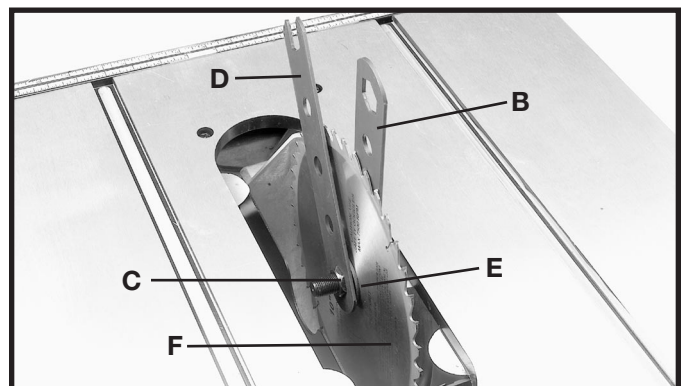

Fig. 46
4. Using the open end wrench (B) Fig. 46, place open end of wrench on flats on inside blade flange to keep the saw arbor from rotating and remove arbor nut (C) with the closed end of wrench (D). Turn nut (C) counterclockwise to remove. Remove outside blade flange (E) and saw blade (F).
5. Install new blade, making certain teeth of blade are pointing down at the front of the saw table and assemble the outside blade flange (E) Fig. 46, and arbor nut (C). Tighten nut (C) with wrench (D) by turning nut clockwise while holding arbor steady with other wrench (B).